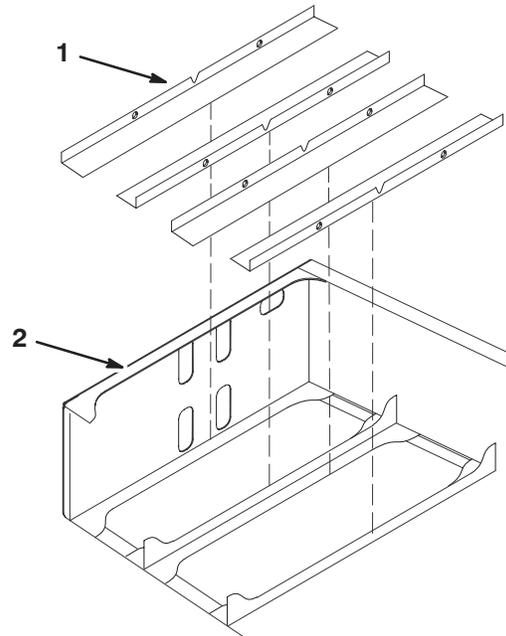

Figure 8
2. Install the battery tray pads into the rear frame assembly as shown Figure 8.